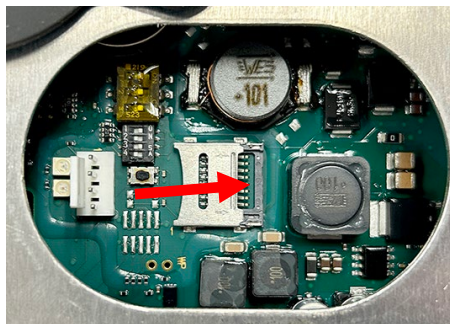

Figure 9
12. Gently slide the lock towards the **RIGHT as shown** arrow towards the gray plastic edge until the top retainer stops (see Figure 9).